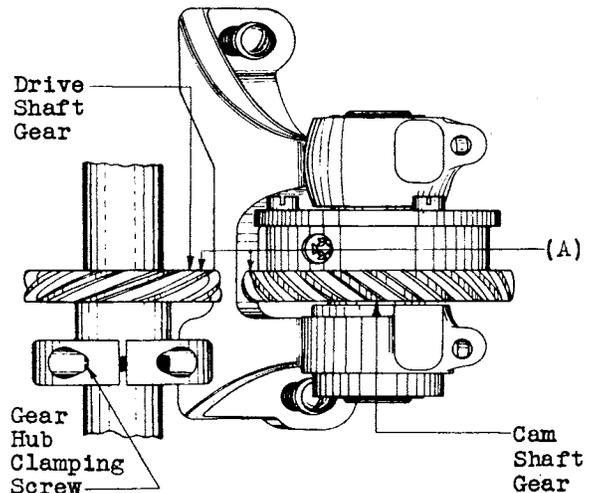

Fig. 6
(a) **Cam Shaft and Vertical Drive Shaft Gears** - Fig. 6 (A) - The top side of the gear on the vertical drive shaft and the top side of the cam shaft gear shall lie in approximately parallel planes perpendicular to the axis of the vertical drive shaft. The sides shall not be out of plane one with the other in a vertical direction more than  $1/32$ ". Gauge by eye.